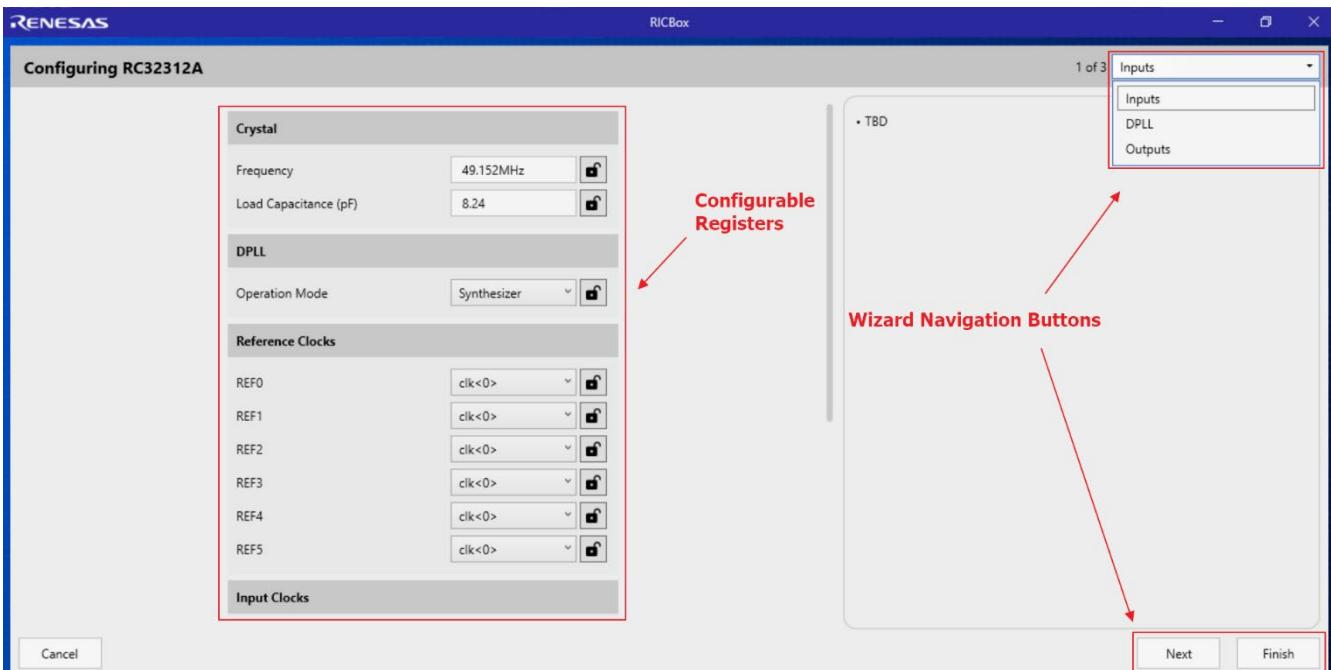

Figure 25. RICBox Wizard Navigation
5. Follow the on-screen wizard (see Figure 25) to configure the device for general evaluation starting from "Inputs", then "DPLL", and finally "Outputs".